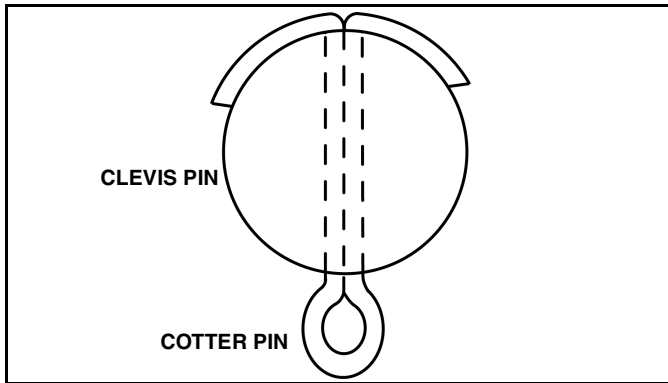

Figure 1-6
*NOTE: Note: Make sure cotter pin is properly bent as in fig. 1-6 or pin may work loose.*